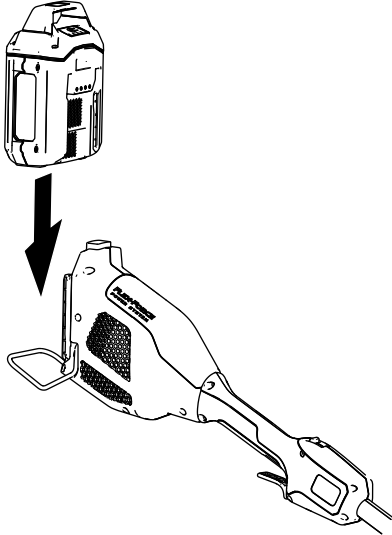

Figure 8
2. Align the cavity in the battery pack with the tongue on the handle housing (Figure 8).